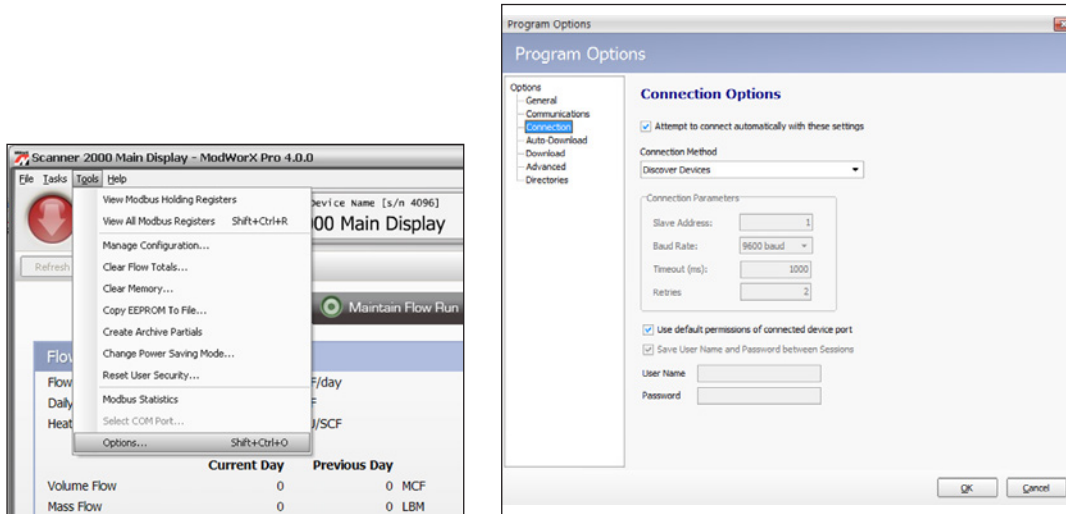

Figure A.20
1. Click ***Tools>Options*** in the task bar (Figure A.20, page A-20).